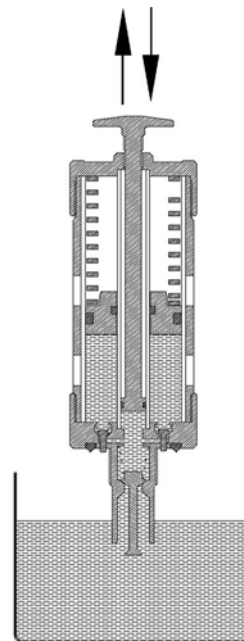

Fig. 6-5 Step 9 (7&8)
9. Repeat steps 7 and 8. (Figure 6-5).